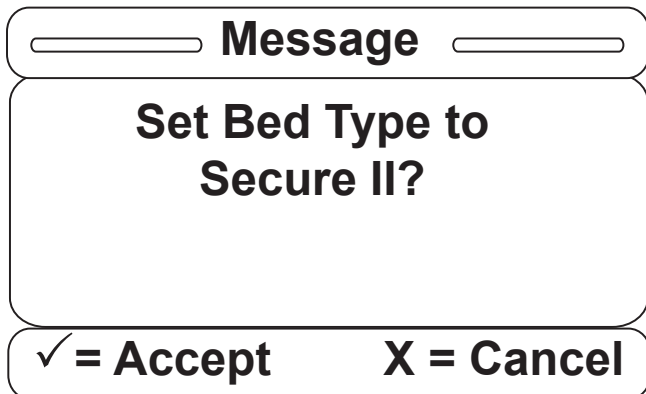

Figure S-3
3. After Secure II has been selected in step 2, a confirmation screen will be displayed as shown in Figure S-3. Confirm you want to Set Bed Type to Secure II? by pressing “Enter” on the footboard panel. If needed, press “Exit” to cancel the operation.